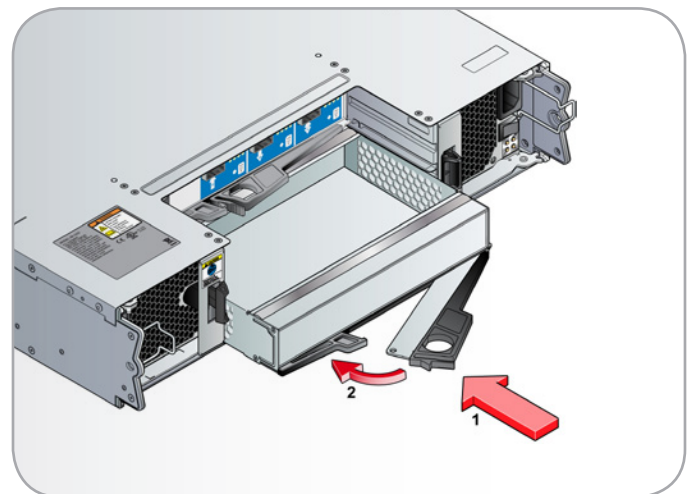

Fig. 49 - Installing and Latching a Blank Module
1. With the latch in the open position, slide the module into the enclosure until the latch engages (Fig. 49).